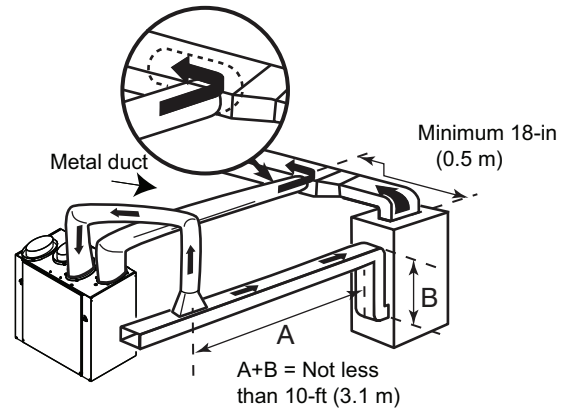

Fig. 13 - Method 1: Supply-return connection
- Cut an opening into the furnace/air handler return duct not less than 10-ft (3.1 m) from the furnace/air handler (see Fig. 13)